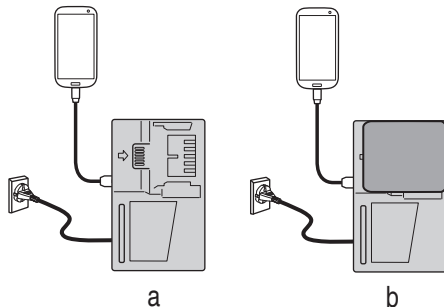

Fig. 16
- Charging a USB device from a electrical outlet (Fig. 16-a).
- Charging a USB device and battery from a electrical outlet.(Fig. 16-b)